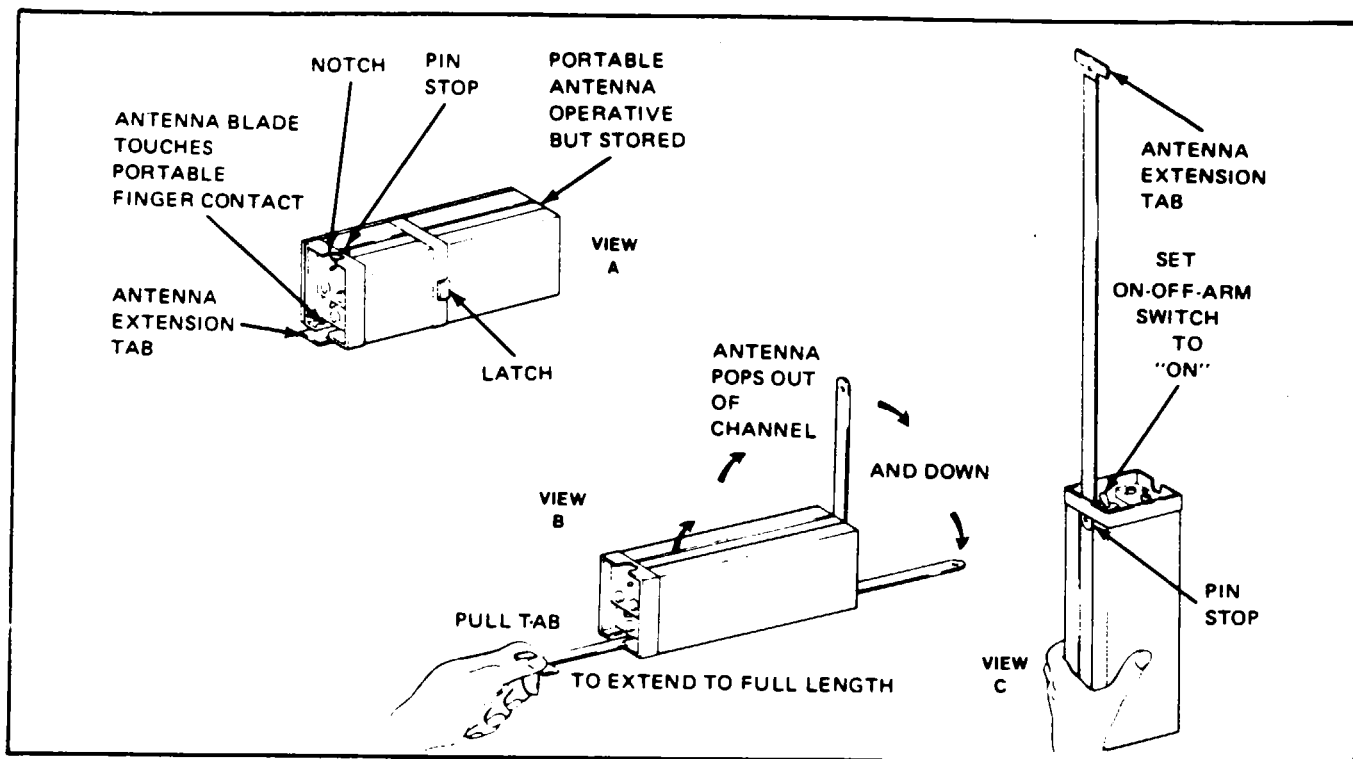

Figure 23-1. Portable Folding Antenna (Narco)
BATTERY REMOVAL AND INSTALLATION. (Refer to Figures 23-1 and 23-2.)
5. Extend the portable antenna. (See Figure 23-1.)